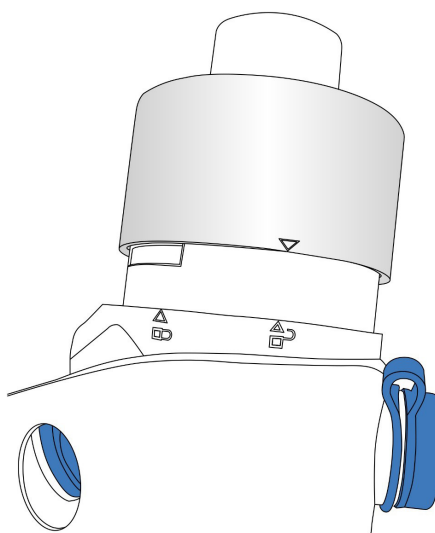

Figure 12 - Front cap aligned in the unlock position.
7. Reconnect the green tubing to the associated elbow ensuring there are no kinks (Figure 12).
8. Align the arrow on the front cap with the unlock position on the flowhead body (Figure 12). Carefully push in the front cap fully and turn clockwise until in the locked position.